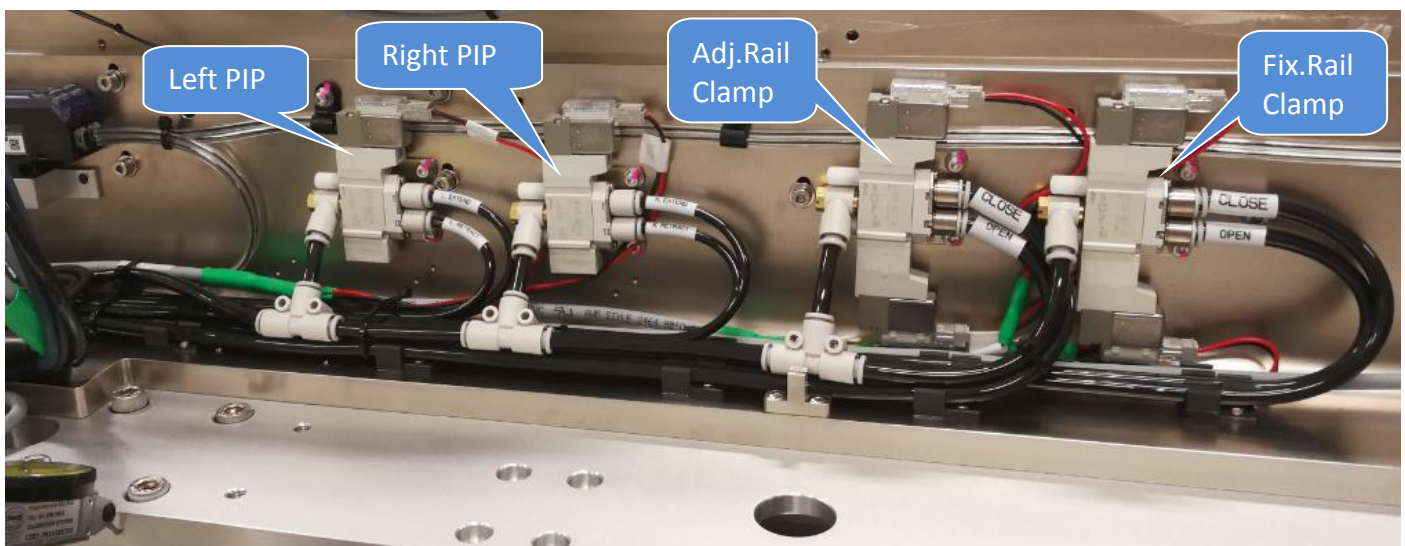

Figure 2 Adj Rail Clamper Pneumatic Valve Location
5. Identify Adj Rail Clamper Pneumatic Valve Location by refer to below Figure 2